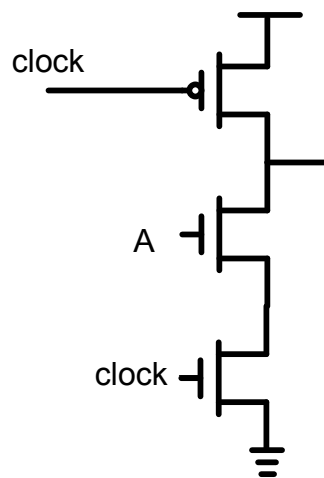

Figure 5
5. (a) What is the logical effort of the dynamic gate in Figure 5? [6 points]